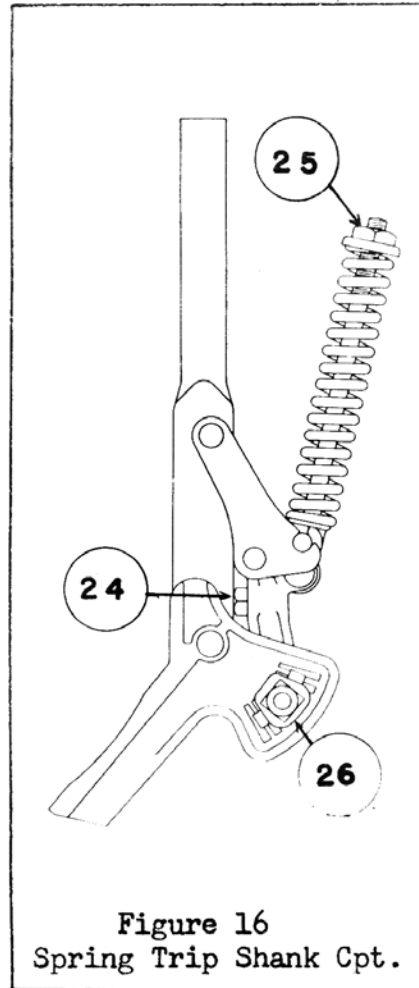

Figure 16
- (a.) Adjust set screw in the lower trip link RC-817-A to control spring trip action. If shovel trips too easily turn set screw into link. Set screw head should touch shank when trip is in a closed position (Arrow 24, Figure 16).
- (b.) Increase tension on spring with nut to insure quick return of shovel after tripping (Arrow 25, Figure 16).
- (c.) Adjust corrugated washer for more or less pitch of shovel (Arrow 26, Figure 16).